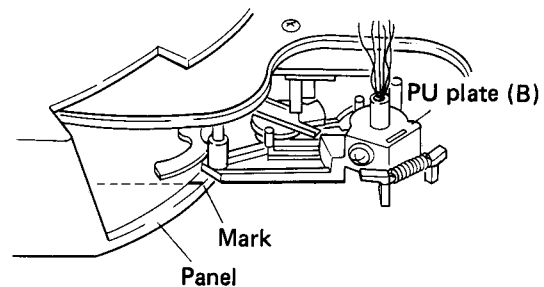

Fig. 3-4 Attach PU plate (B)
3. Install the PU plate (B) assembly in reverse sequence of the removal. In this case, however, install the PU plate (B) assembly so that the mark on the panel is on the line extended from the side panel of the PU plate (B) (Fig.3-4).